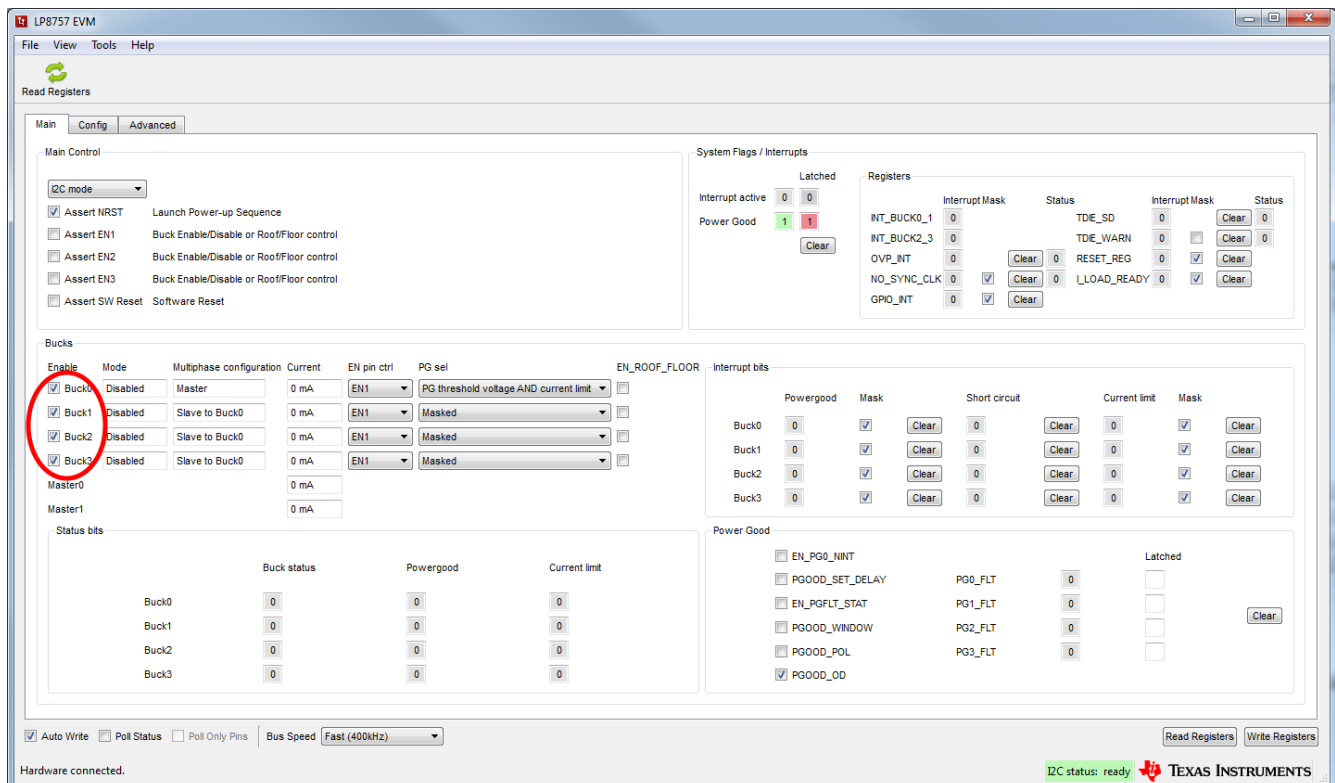

Figure 3-8. BUCK0 Enabled
3. Check that Buck0 is enabled, checkbox is ticked (see Figure 3-8).